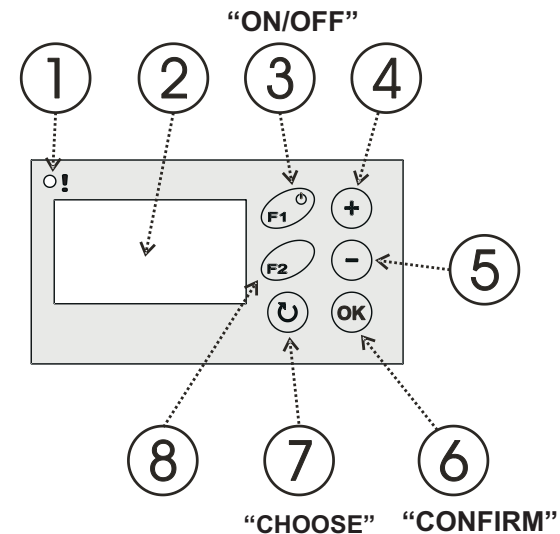

Fig.2 Control panel view
There are elements on the control panel (fig. 2). In the turn-off state only the orange standby state LED (1) (!) lights and the graphic display shows current temperature of the water jacket and current time. The turn-on of the control unit follows by pressing the button (3) F1. In order to turn it off press once more the button (3) F1 and at the same time hold it down for about 1sec. In case of supply voltage decline the control unit comes back to the state before the decline.